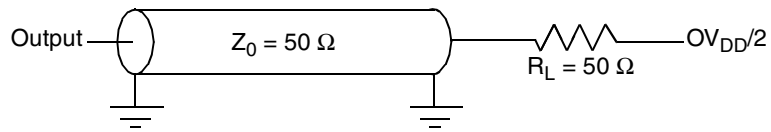
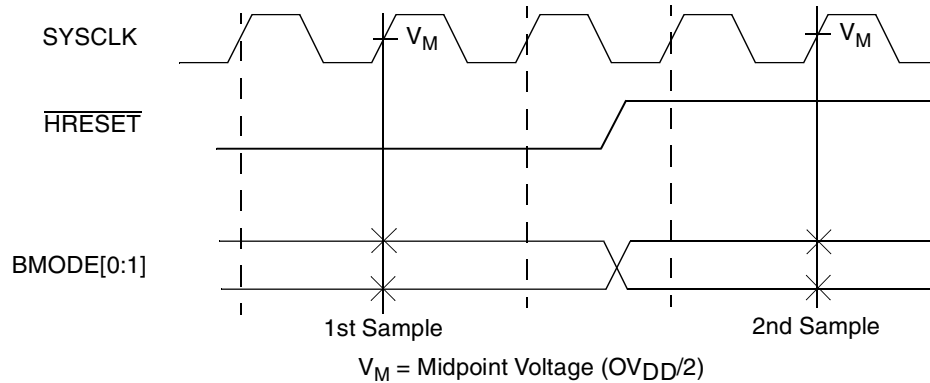
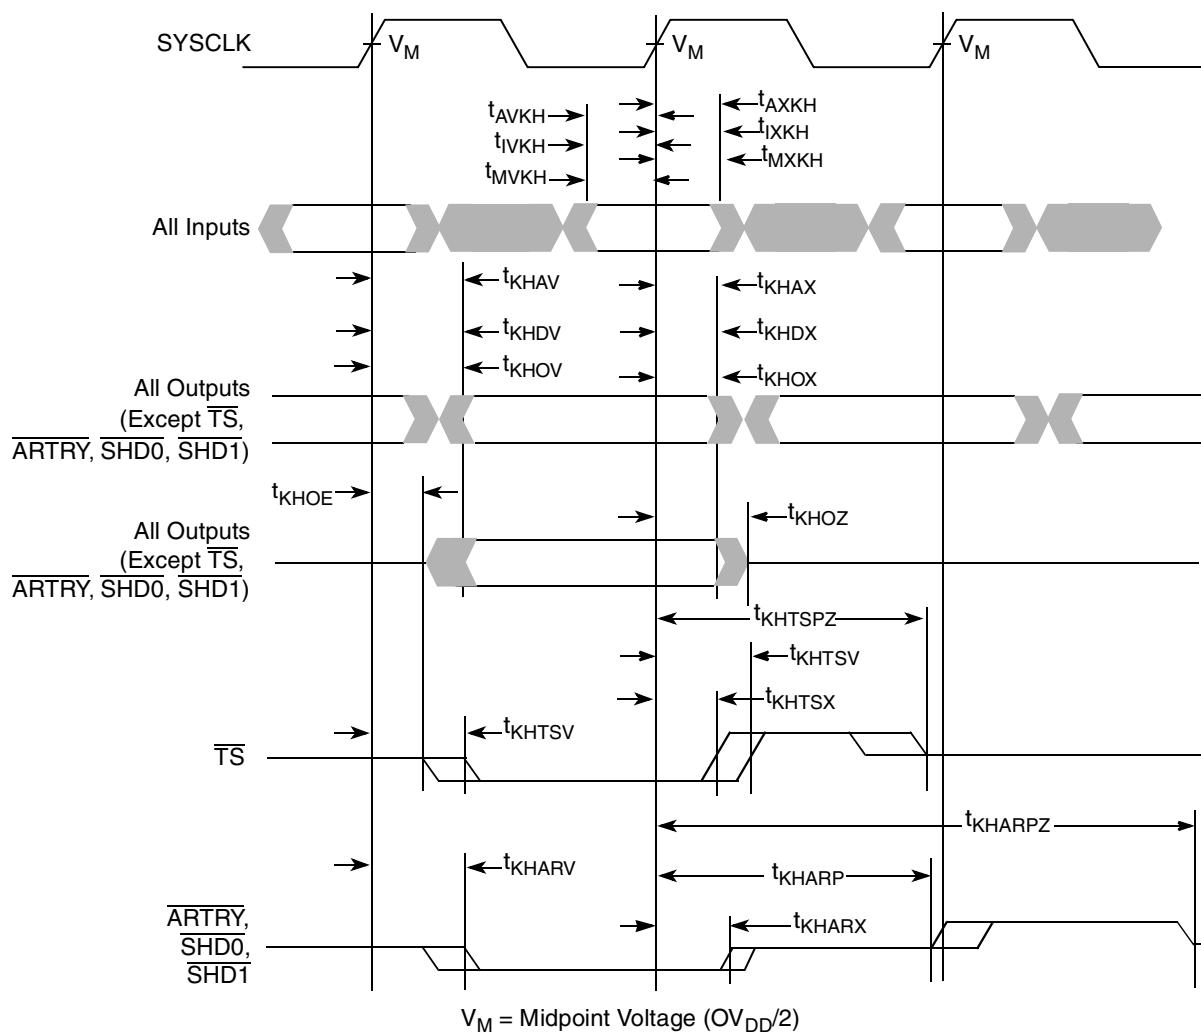

Figure 4. AC Test Load
Figure 5. $\overline{\text{BMODE}}[0:1]$ Input Sample Timing Diagram
Figure 6. Input/Output Timing Diagram
Table 9 provides the processor bus AC timing specifications for the MPC7448 as defined in Figure 4 and Figure 5.
- All input specifications are measured from the midpoint of the signal in question to the midpoint of the rising edge of the input SYSClk. All output specifications are measured from the midpoint of the rising edge of SYSClk to the midpoint of the signal in question. All output timings assume a purely resistive 50-Ω load (see Figure 4). Input and output timings are measured at the pin; time-of-flight delays must be added for trace lengths, vias, and connectors in the system.
- The symbology used for timing specifications herein follows the pattern of $t_{(signal)(state)(reference)(state)}$ for inputs and $t_{(reference)(state)(signal)(state)}$ for outputs. For example, t_{VKH} symbolizes the time input signals (I) reach the valid state (V) relative to the SYSClk reference (K) going to the high (H) state or input setup time. And t_{KHOV} symbolizes the time from SYSClk(K) going high (H) until outputs (O) are valid (V) or output valid time. Input hold time can be read as the time that the input signal (I) went invalid (X) with respect to the rising clock edge (KH) (note the position of the reference and its state for inputs) and output hold time can be read as the time from the rising edge (KH) until the output went invalid (OX).
- According to the bus protocol, \overline{TS} is driven only by the currently active bus master. It is asserted low and precharged high before returning to high impedance, as shown in Figure 6. The nominal precharge width for \overline{TS} is t_{SYSClk} , that is, one clock period. Since no master can assert \overline{TS} on the following clock edge, there is no concern regarding contention with the precharge. Output valid and output hold timing is tested for the signal asserted. Output valid time is tested for precharge. The high-impedance behavior is guaranteed by design.
- According to the bus protocol, \overline{ARTRY} can be driven by multiple bus masters through the clock period immediately following \overline{AACK} . Bus contention is not an issue because any master asserting \overline{ARTRY} will be driving it low. Any master asserting it low in the first clock following \overline{AACK} will then go to high impedance for a fraction of a cycle, then negated for up to an entire cycle (crossing a bus cycle boundary) before being three-stated again. The nominal precharge width for \overline{ARTRY} is $1.0 t_{SYSClk}$; that is, it should be high impedance as shown in Figure 6 before the first opportunity for another master to assert \overline{ARTRY} . Output valid and output hold timing is tested for the signal asserted. The high-impedance behavior is guaranteed by design.
- $\overline{BMODE}[0:1]$ and $BVSEL[0:1]$ are mode select inputs. $\overline{BMODE}[0:1]$ are sampled before and after \overline{HRESET} negation. $BVSEL[0:1]$ are sampled before \overline{HRESET} negation. These parameters represent the input setup and hold times for each sample. These values are guaranteed by design and not tested. $\overline{BMODE}[0:1]$ must remain stable after the second sample; $BVSEL[0:1]$ must remain stable after the first (and only) sample. See Figure 5 for sample timing.
Figure 4 provides the AC test load for the MPC7448.
Figure 5 provides the $\overline{\text{BMODE}}[0:1]$ input timing diagram for the MPC7448. These mode select inputs are sampled once before and once after $\overline{\text{HRESET}}$ negation.
Figure 6 provides the input/output timing diagram for the MPC7448.